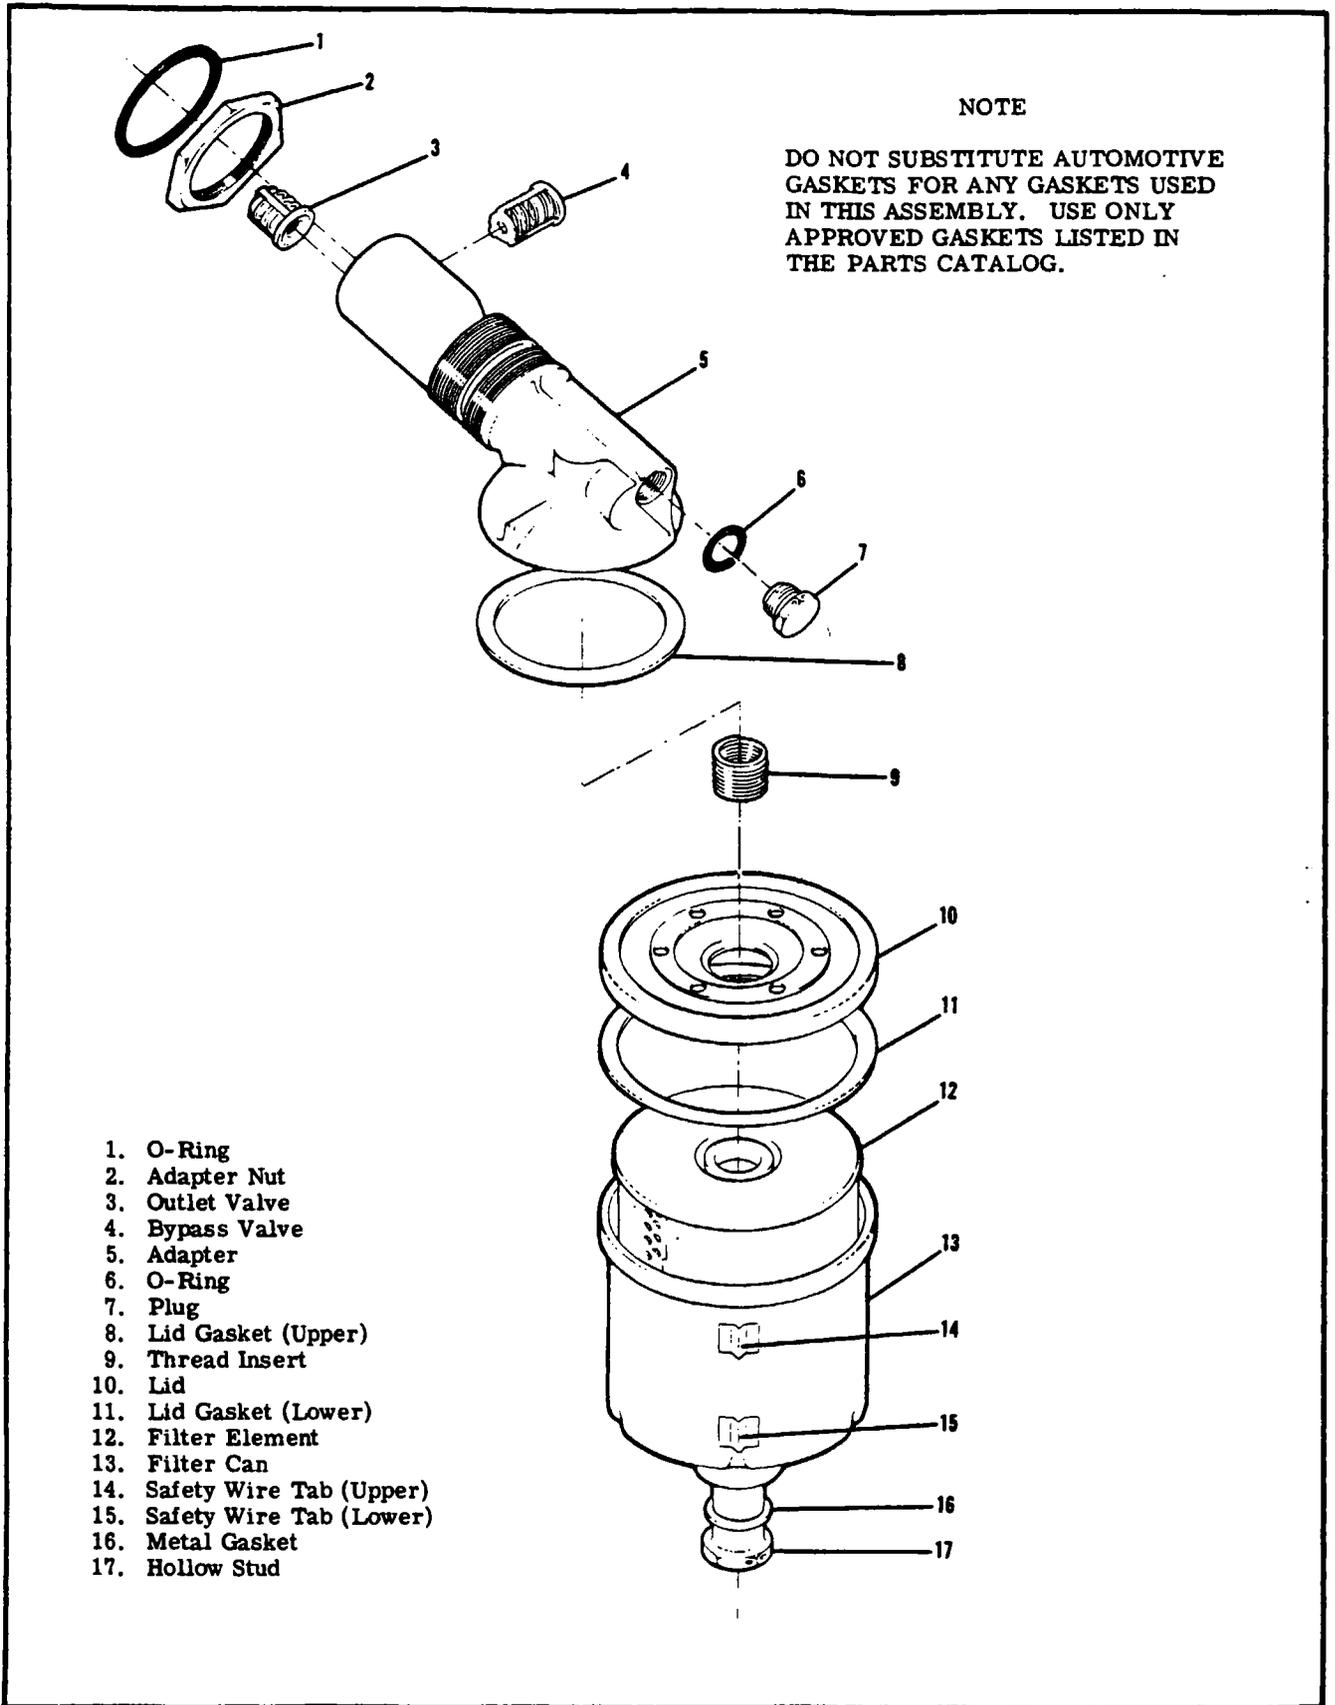

Figure 11-4. Full-Flow Oil Filter
11-30. FILTER ELEMENT REMOVAL AND INSTALLATION. (See figure 11-4.)
- 11-31. ADAPTER REMOVAL. (See figure 11-4.)
11-32. DISASSEMBLY, INSPECTION, AND ASSEMBLY. Figure 11-4 shows the relative position of the internal parts of the filter adapter and may be used as a guide during installation of parts. The bypass valve is to be installed as a complete unit, with the valve being staked three places. A new helio-type thread insert in the adapter may be installed although special tools are required. Follow instructions of the tool manufacturer for their use. Inspect threads on adapter and in engine for damage. Clean adapter in solvent and dry with compressed air. Ascertain that all passages in the adapter are open and free of foreign material. Also, check that bypass valve is seated properly.
- a. Assemble adapter nut and new O-ring on adapter in sequence illustrated in figure 11-4.